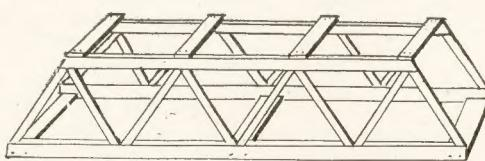

Fig. 3—The girder pattern made into a section
It will be seen that the end of the brass tooth, which protrudes beyond the panel, must be filed to fit easily in the sprocket holes of the film, as at (F) in Fig. 3. Make sure the fit is an easy one, or damage may result to the film. Now limit the outward movement of the upper half of the traveller with a small bent piece of tin, seen in Fig. 1 (4). It can be about ¼in. long and should rise above the panel ½in., its bent-over edge just catching the traveller and preventing it rising higher. To regulate the distance travelled by the tooth, fit the part (5) (the regulator, seen on the pattern page) just below the traveller, when the latter is at its lowest point.